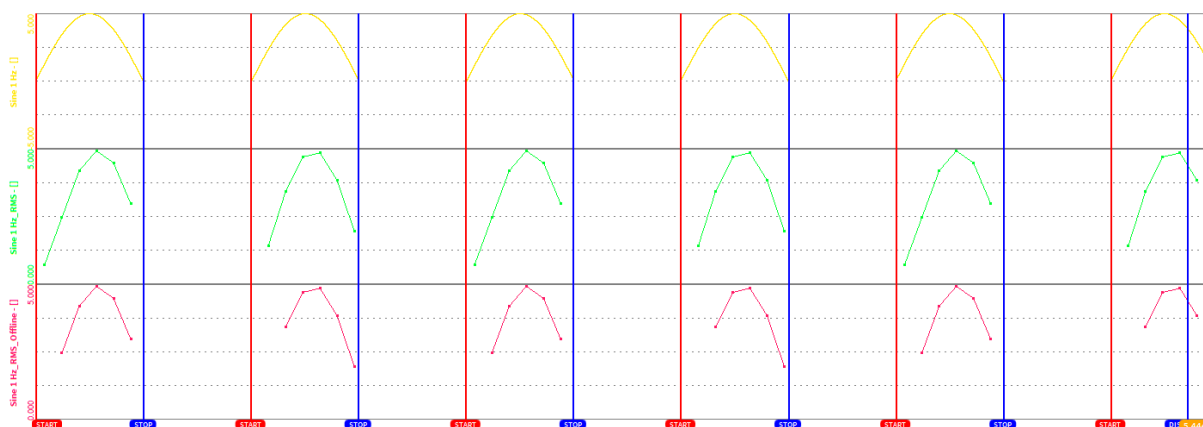

Fig. 7.180: Deviation of Offline and Online Statistics channels in case of Event based Waveform recording
- Be aware that an Offline Statistics channel will differ from an Online Statistics channel, i.e. at the beginning of the file or in case of Event based waveform recording (see Triggered Events). In the example displayed in Fig. 7.180, the green channel is an online calculated Statistics channel applied on the yellow analog channel and the red channel is an offline calculated Statistics channel applied on the yellow analog channel with identical channel settings. The deviation of the green and the red channel is due to the availability of the full analog data during online calculation. During the offline calculation, only the event based recorded analog data is available.